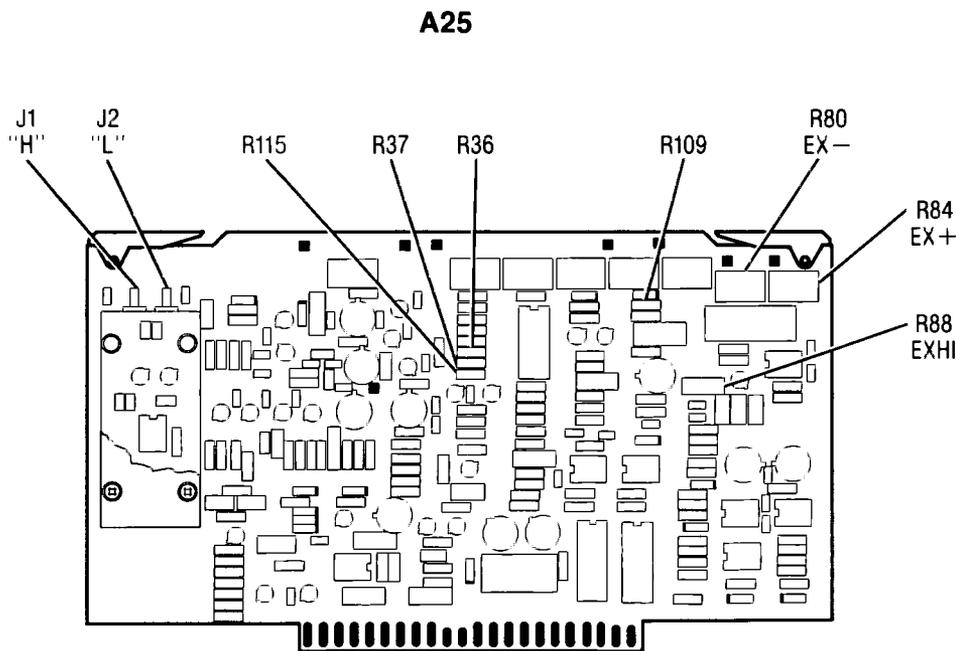

Figure 5-46. ALC Detector A25 Temperature Compensation Adjustments Location
- 2 Disconnect cables W26 and W27 from A25J2 and A25J1 respectively (Figure 5-46), and remove the A25 PC board from the instrument.